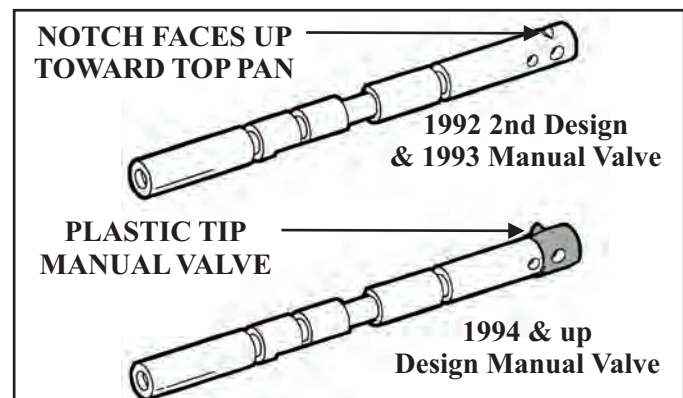

Figure 42
**NOTICE:** The 1992 2nd design and the 1993 manual valve can be identified by a notch on the end which attaches to the shift linkage. The 1994 manual valve can be identified by a plastic cap on the end of the manual valve (See Figure 42).